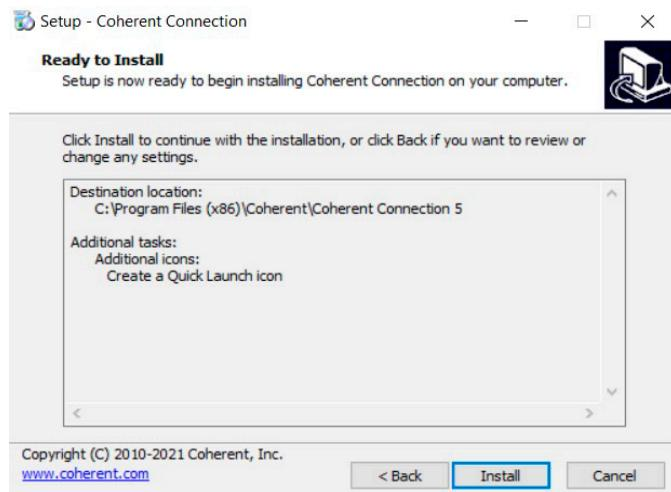

Figure 4-4. Coherent Connection 4 License Agreement
7. Read the instructions, then click Next. The License Agreement shown in Figure 4-4 is displayed.